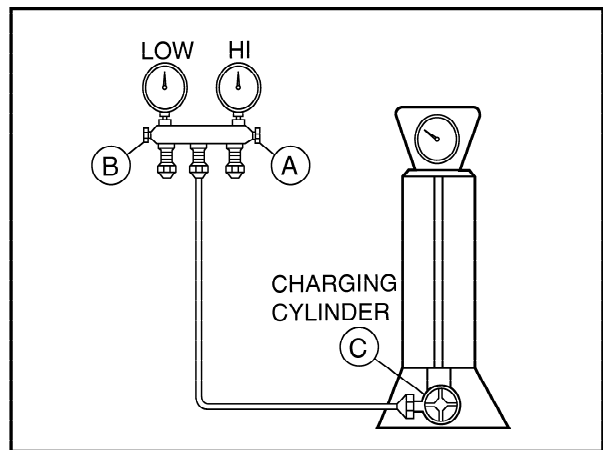

Figure 15B-Charging
- 2) Start the vacuum pump, slowly open manifold valves A and B with two full turns counterclockwise and leave the valves open. The vacuum pump is now pulling through valves A and B up to valve C (figure 15B) by means of the manifold and entire system.
- 4) Remove the hose from the vacuum pump and place it on the charging cylinder. See figure 15B.
- 2) Connect the charging cylinder as shown in figure 15B.